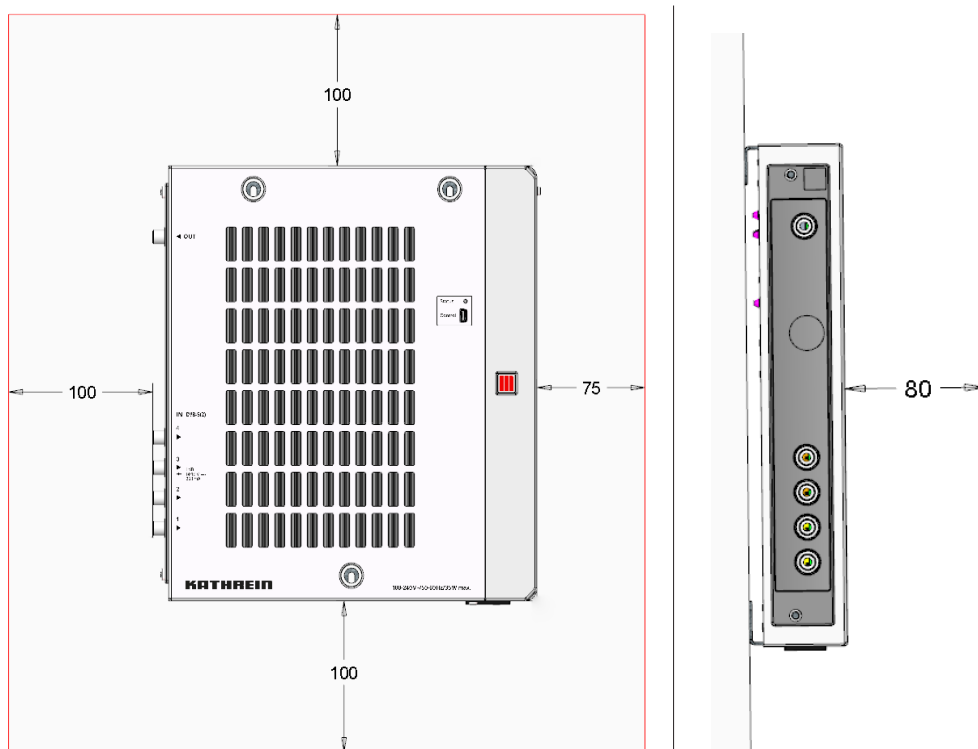

Fig. 2: Allow the necessary clearance for air circulation
- To allow free circulation of air around the device, the clearances shown in Fig. 2 must be ensured.
1. Mount three screws with $d_{max} = 4\text{mm}$ and do not tighten the screws completely; see Fig. 2 and enclosed drilling template